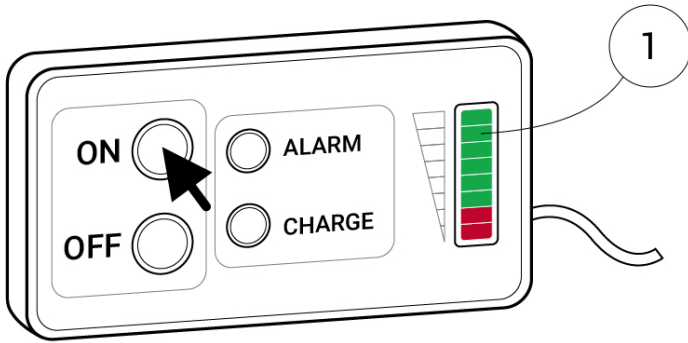

Figure 7. Turning on energy storage device.
After charging, disconnect the energy storage device from the charger and connect to the vehicle power connector. Place the status indicator (Fig. 7) of the energy storage device in a place convenient for driver, push «ON» button. If there are no errors, the energy storage device will turn on and the battery level will be displayed (1). Otherwise, power connector of the energy storage device will be de-energized.